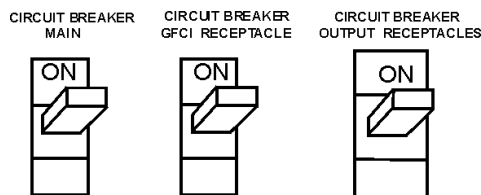

Figure 37. Main and GFCI Circuit Breakers
18. If there are no abnormal problems shown on the "MPEC" LED display, turn the MAIN, GFCI and LOAD circuit breakers to their ON position (Figure 37).